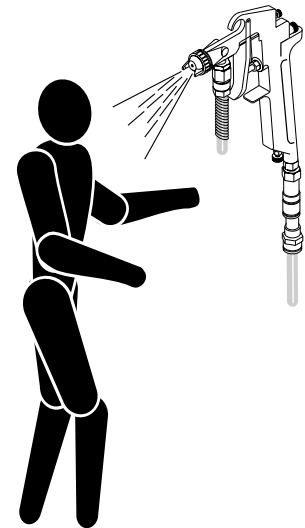

Fig.36
7) The spray gun **MUST NEVER** be aimed at people (fig.36) or objects that are not involved in the operations. Any kind of operation should be carried out with the **gun facing downwards**.